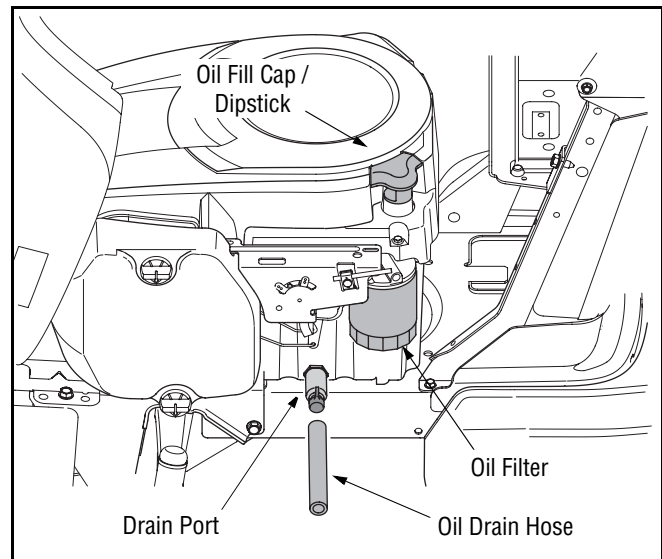

Figure 17
1. Pop open the protective cap on the end of the oil drain valve to expose the drain port. See Figure 17